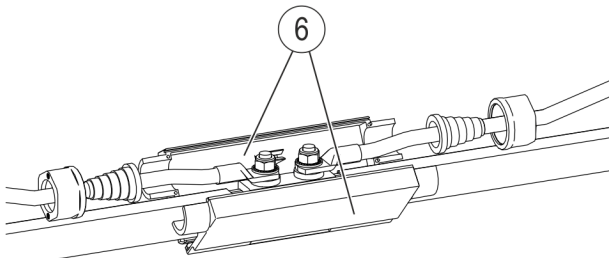
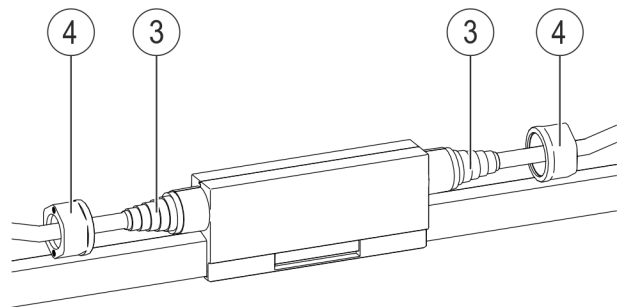

Fig. 90: Close the line feed cap halves over the line feed
Fig. 91: Screw the line feed cap halves together with the cable grommets and nuts
- Hook both halves of the line feed cap (Pos. 6) under the rail. The inner snap lock of the line feed cap must be between the two line feed clamps. Clip the two halves together and screw together with the already fitted cable grommets (Pos. 3) and nuts (Pos. 4) (see Fig. 90 and Fig. 91).